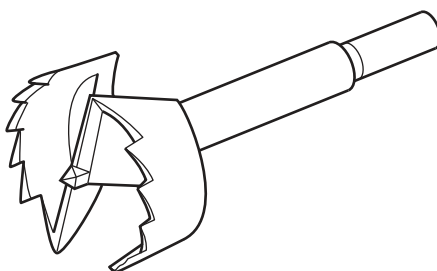

Fig. 12.3
- (d) Fig. 12.3 shows a type of drill bit that could be used to drill the Ø20 holes in the base of the pinball game.
- (i) Name the type of drill bit shown in Fig. 12.3.